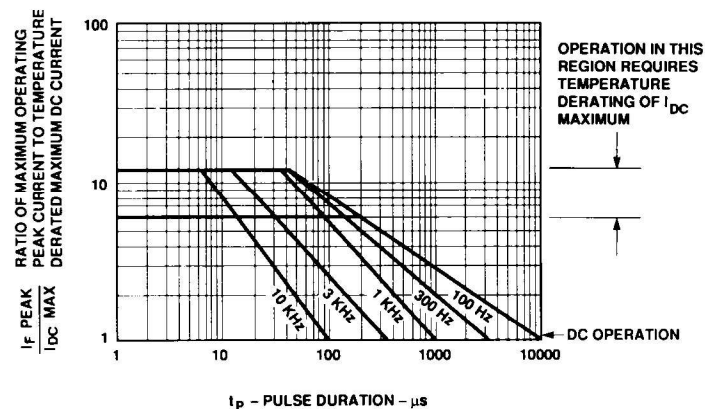

Figure 1. Maximum Tolerable Peak Current vs. Pulse Duration – Red.
- See Figure 1 to establish pulsed conditions.